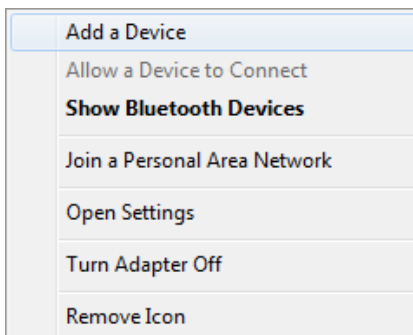

Figure 5.2.1-2: Add a Device
3. Click the name of the Smart Socket once it has been discovered (Figure 5.2.1-3).